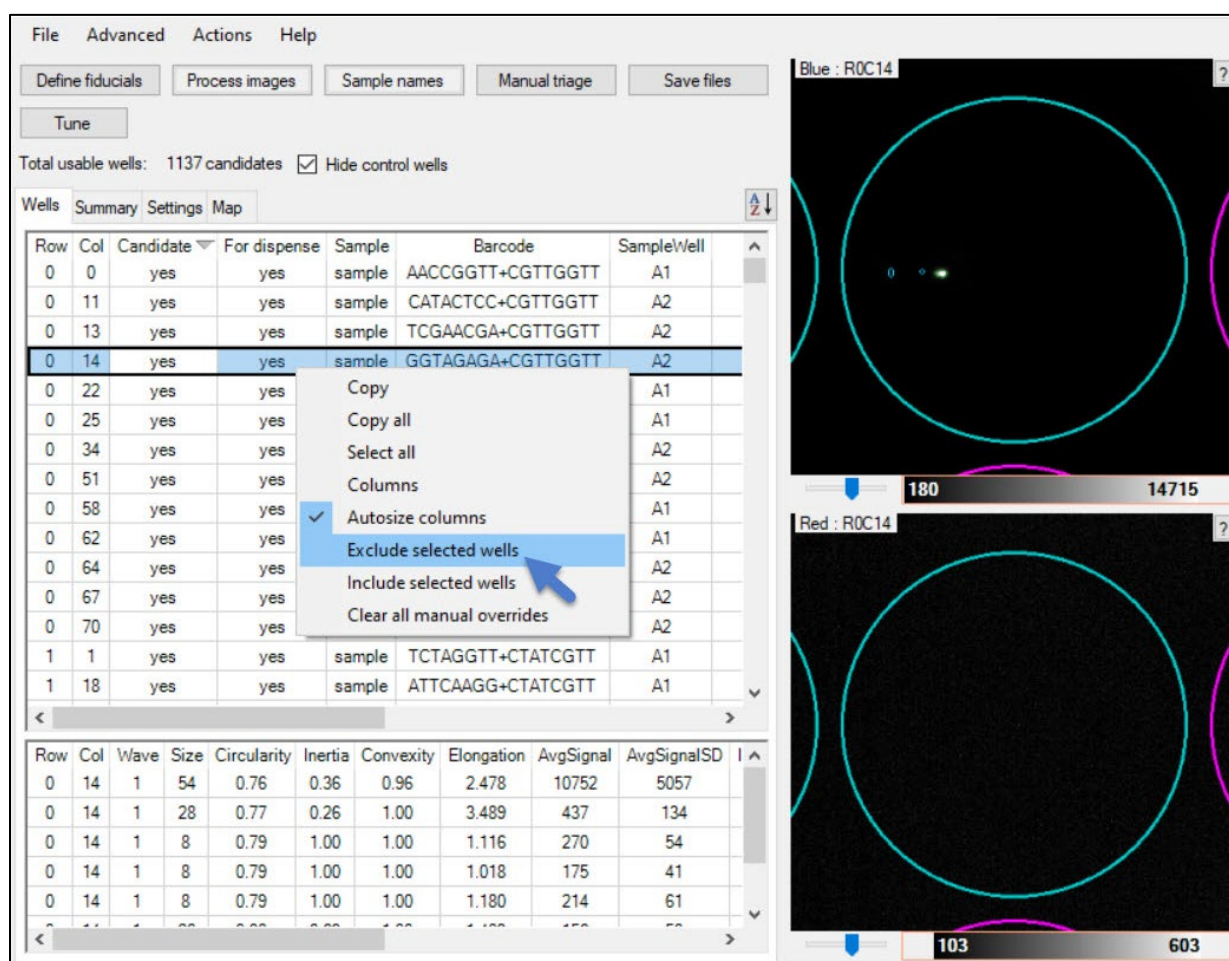

Figure 38. Excluding candidate wells.
4. To manually exclude one or more candidate wells, right-click the highlighted row(s) and select **Exclude selected wells** (Figure 38). To exclude several candidate nanowells or include nanowells the software initially excluded, consider using the manual triage function described in the section below (Section III.G).